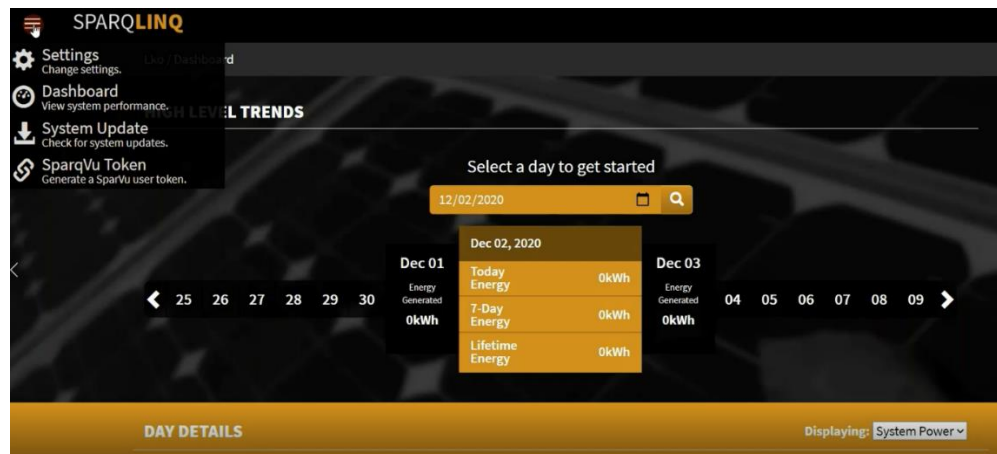

Figure 14: Network configuration via SparqLinq dashboard.
1. Click on the menu icon (three horizontal bars) in the top left corner of the dashboard page and then select the Settings option as shown in Figure 14.